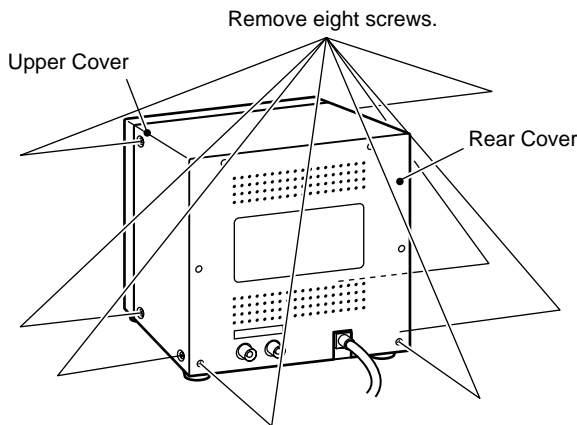

Fig. 2-1
- Referring to Fig. 2-1, remove eight screws that secure the Upper Cover and the Rear Cover. Remove the Upper Cover and the Rear Cover.